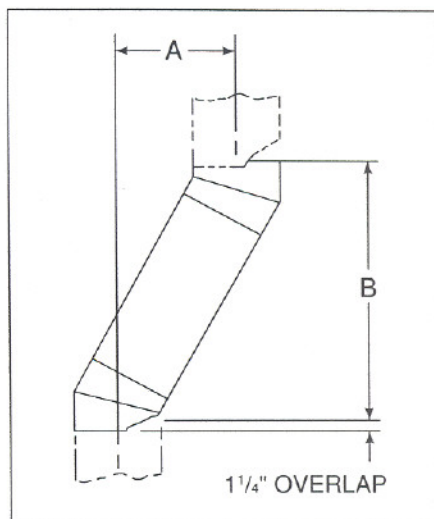

Figure 9
To clear any overhead obstructions, the chimney may be offset using a 15° Offset/Return, Catalog Number SL315, or a 30° Offset/Return, Catalog Number SL330. Figure 9 and Table 1 enable selection of the appropriate chimney components when using Offsets and Returns.
1. Determine amount of offset required to extend the chimney through a wall or around an obstacle. See Figure 9, dimension "A".